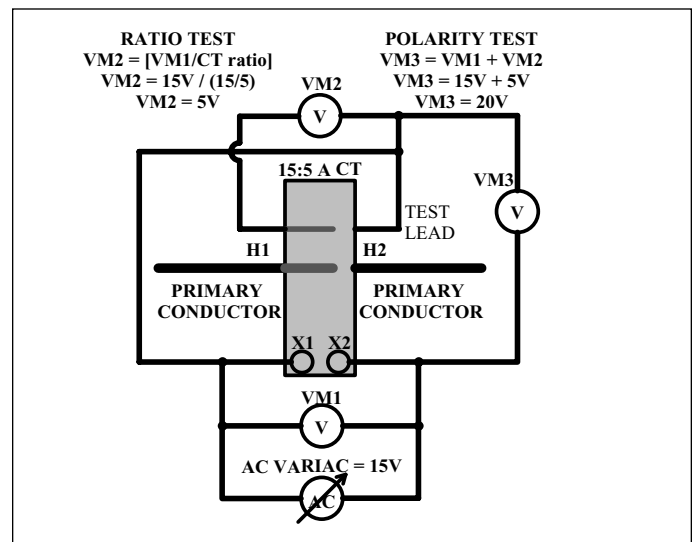

Figure 5 — AC Voltage Ratio Test Circuit
To test polarity using ac voltage, a variable transformer and voltmeter (preferably two) are required. Use the following steps to test for CT polarity using the ac method, as shown in Figure 5.
- Connect a voltage source (variable transformer) and voltmeter (VM1) across the CT secondary, as shown in Figure 5.